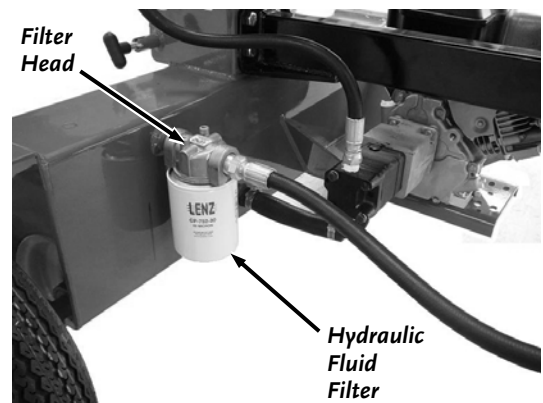

Figure 20
19. Remove the hydraulic fluid filter from the plastic cover and apply a thin coat of hydraulic fluid to the rubber seal. Screw the filter onto the filter head (**Figure 20**), located near the hydraulic tank. Once the filter seal makes contact with the filter head, turn it an additional 3/4 turn. Hand-tighten only.